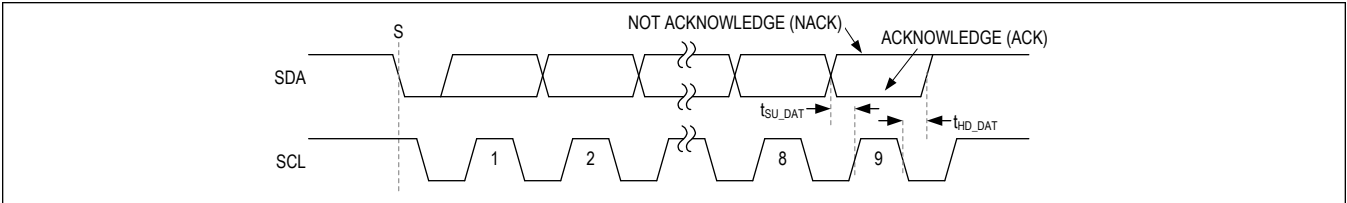

Figure 17. Acknowledge Bit
Both the I2C bus master and this device generate acknowledge bits when receiving data. The acknowledge bit is the last bit of each nine bit data packet. To generate an acknowledge (A), the receiving device must pull SDA low before the rising edge of the acknowledge-related clock pulse (ninth pulse) and keep it low during the high period of the clock pulse. See Figure 17. To generate a not-acknowledge (nA), the receiving device allows SDA to be pulled high before the rising edge of the acknowledge-related clock pulse and leaves it high during the high period of the clock pulse.